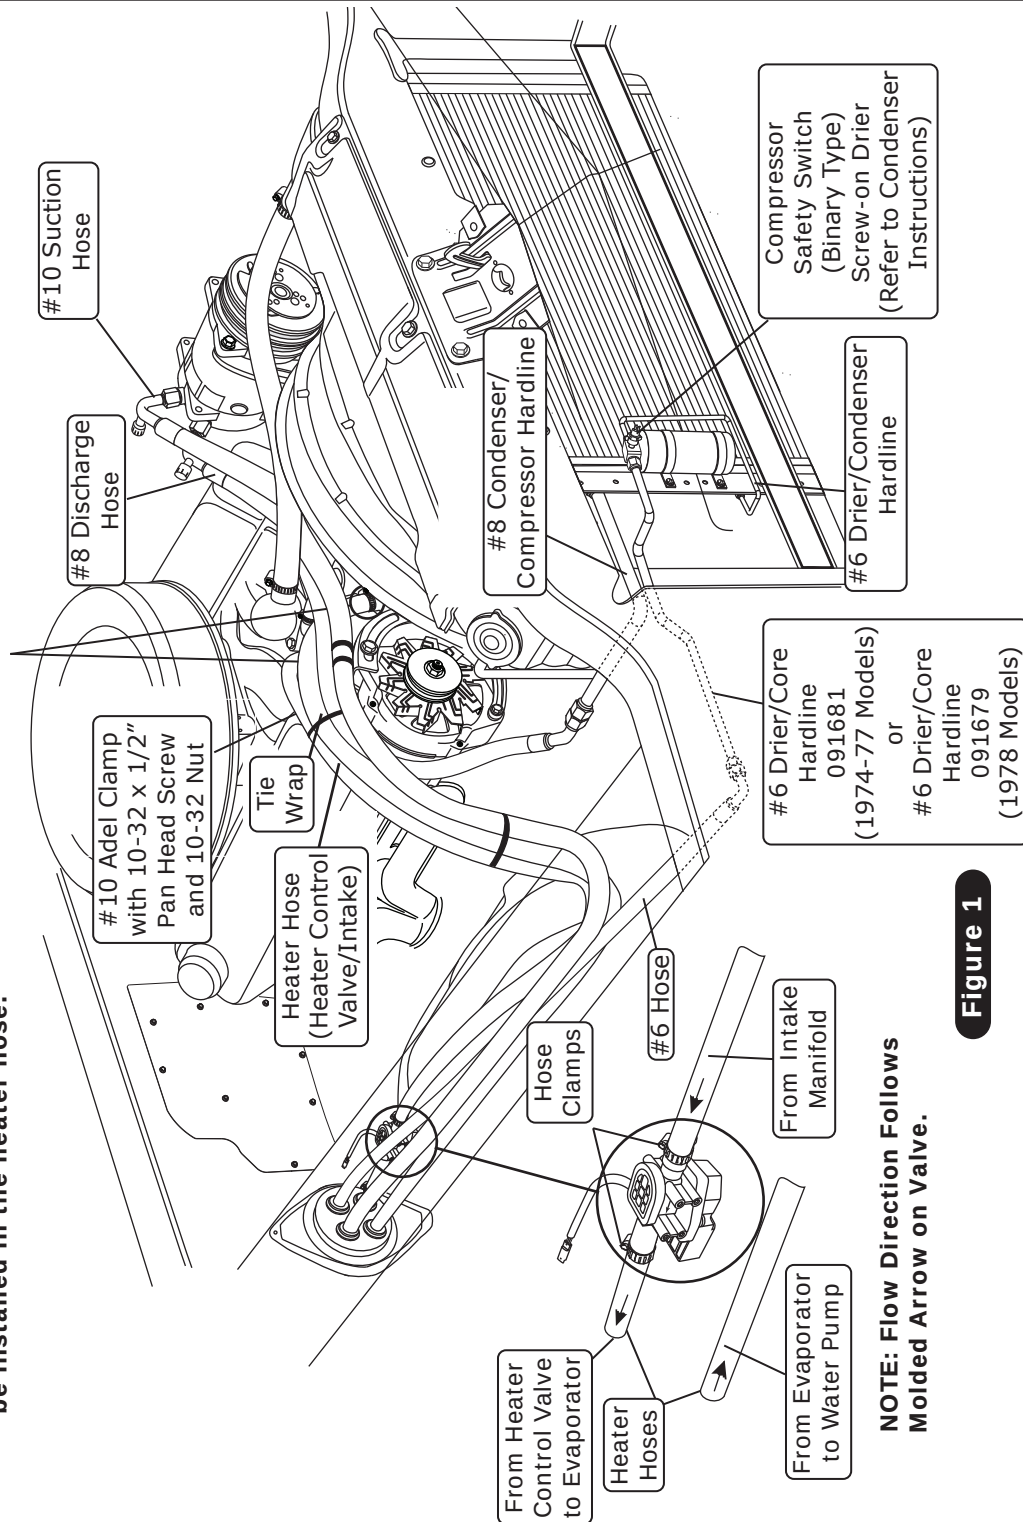

Figure 1
1. Route a piece of heater hose from the water pump to the upper heater core fitting as shown in Figure 1, below. Secure using hose clamps.
2. Route a piece of heater hose from the intake to the lower heater core fitting as shown in Figure 1, below.
NOTE: Install the heater control valve in line with the intake manifold (pressure side) heater hose, and secure it using hose clamps as shown in Figure 1, below. Also note proper flow direction.